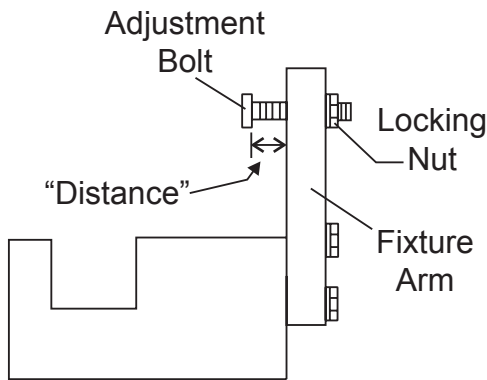

Figure 39. Trowel Arm Adjustment Tool (Side View)
1. Locate the trowel arm adjustment tool (P/N 9177). See Figure 39.